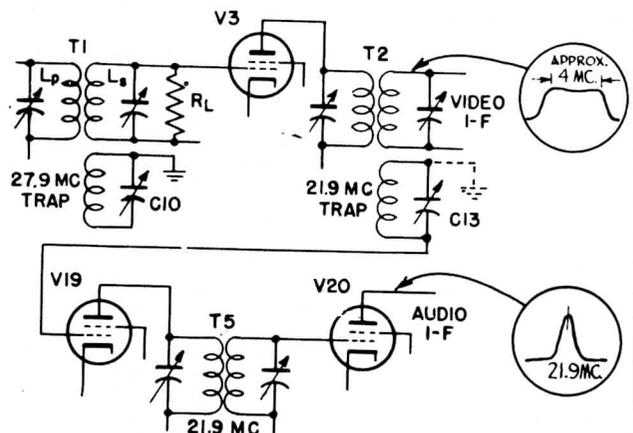

Fig. 3. Video & Audio I-f Amplifier
2. VIDEO AND AUDIO I-F AMPLIFIERS (See Figure 3)—